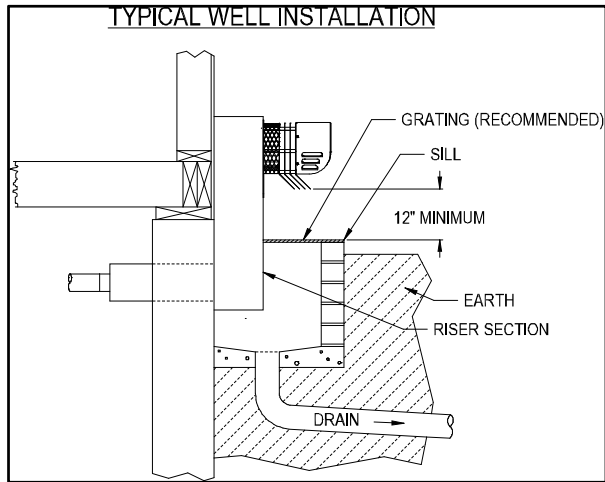

Figure 4
3. Before starting refer to Typical Installation Configuration Diagram on Page 15. Familiarize yourself with the layout of an installation. Determine the vent system termination location (See Diagram A on Page 5) and prepare the installation area: When through the wall vent penetration must be near or below the surrounding grade use a SWG-VR-AF series power vent riser. Provision must be made to protect the vent riser from standing water. A well structure must be used with adequate drainage and protection from water runoff. When a well structure is utilized, adequate clearance from the well wall to the vent riser **MUST** allow for installation, inspection and cleaning of debris. It is recommended that a sill structure and grating be employed to help prevent water and debris entry into the well (See Figure 4). Refer to local building codes governing such structures.